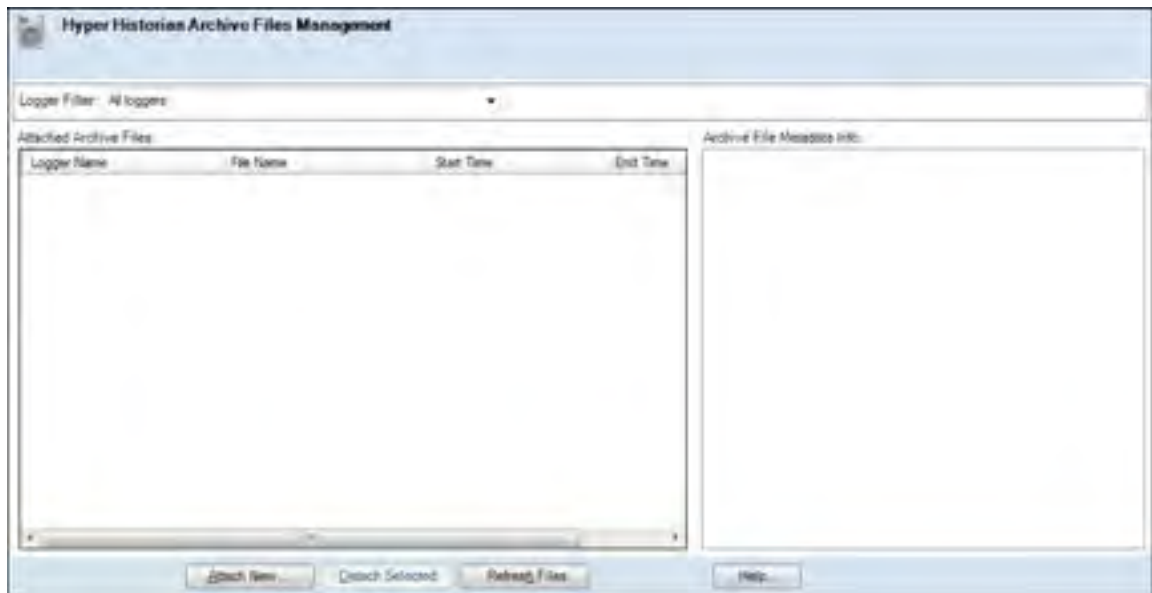

Figure L5.2 - Hyper Historian Archive Files Management
2. The Archive Files Management form appears, as shown in Figure L5.2.